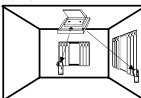

Fig. 4
- **Ceiling Mounted -** (for optimal results Wireless VITRON is centered and directed towards protected glass, using the supplied swivel adaptor, see fig. 4).